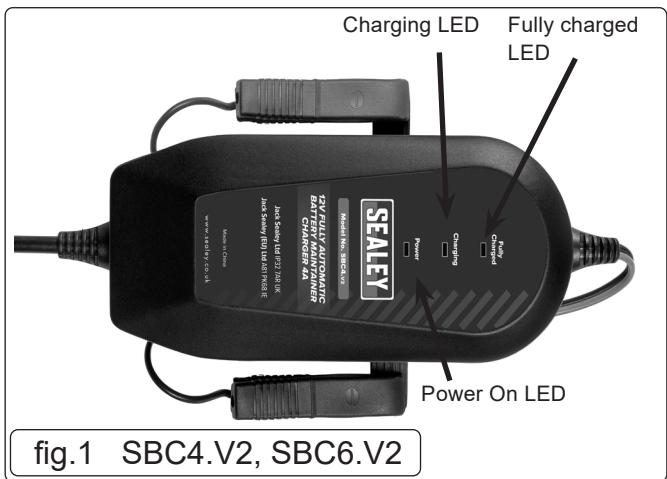
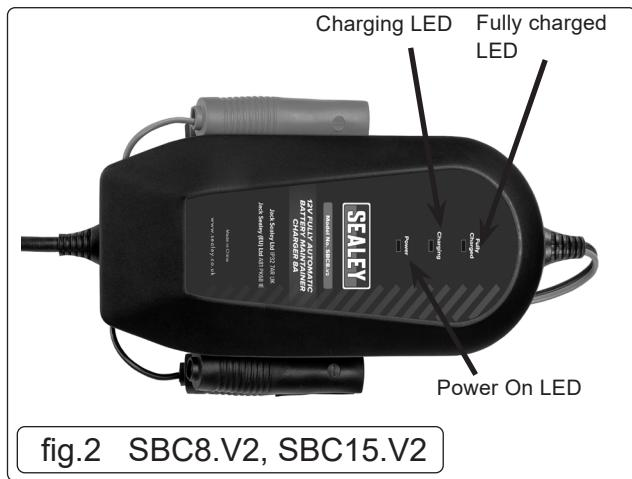

fig.1 SBC4.V2, SBC6.V2
fig.2 SBC8.V2, SBC15.V2
4.5.1. Plug the charger into the power supply and switch on. The LEDs on the front of the chargers (fig.1, fig.2) will indicate 'Power', 'Charging' or 'Fully Charged'.